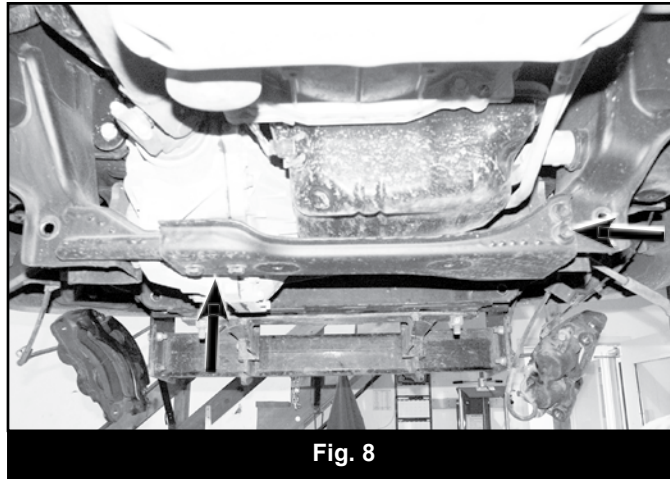

Fig. 8
30. Remove the stock rear differential crossmember by removing the two mounting bolts on each side (Fig 8).